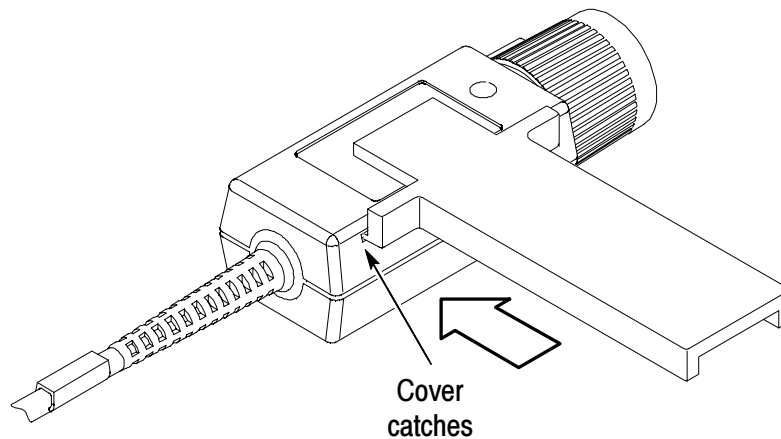

Figure 9: Removing the compensation box covers
1. Press the optional release tool pins into the compensation box cover catches and gently lift the cover off a small distance. Refer to Figure 9, below.